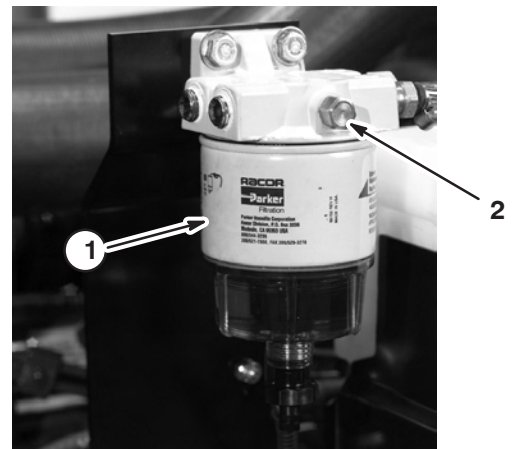

Figure 14
3. Open the vent plug on the fuel/water separator (Fig. 14).